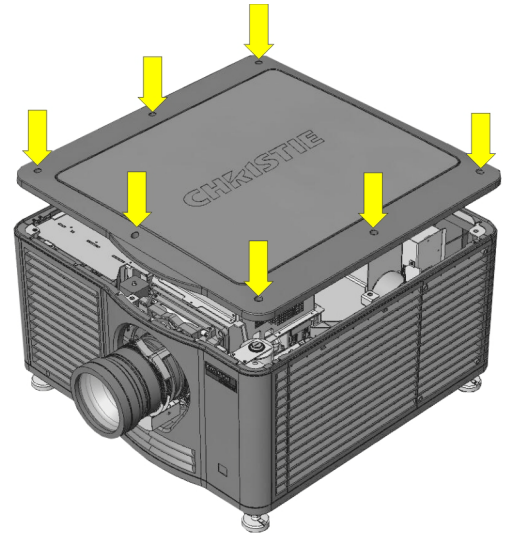

Figure 5-5 Remove Top Lid
1. Loosen the seven captive screws securing the top lid to the projector housing (**Figure 5-5**).